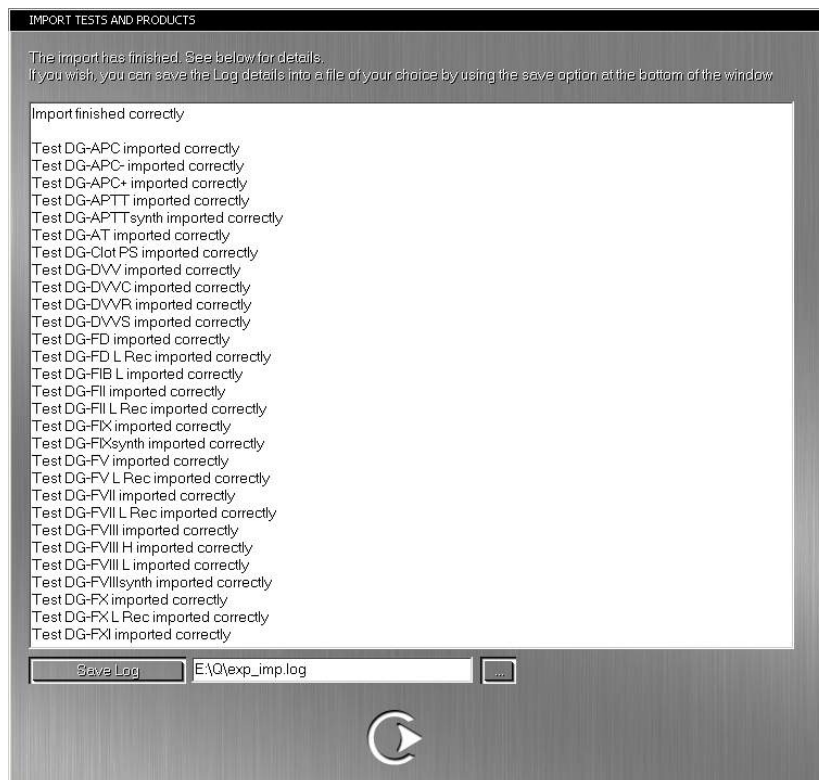

Figure 9.43. Importing New Tests and Products. Step 3
- Press **Accept** and a window informing about the correct importation of all the tests and products will be displayed (Figure 9.43).